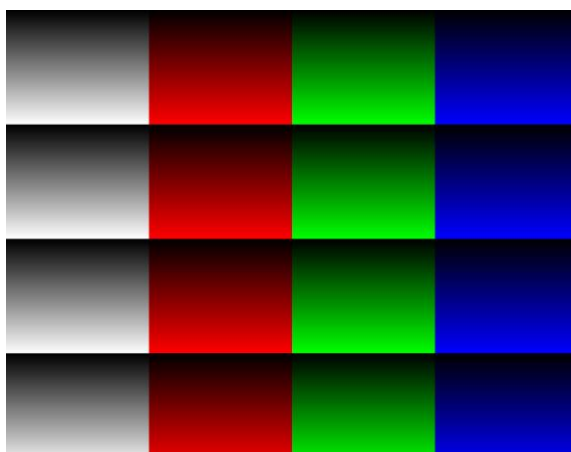

Figure 16 – Vertical color pattern
2. Vertical color ramp – vertical gradient of several color stripes, as shown in Figure 16.